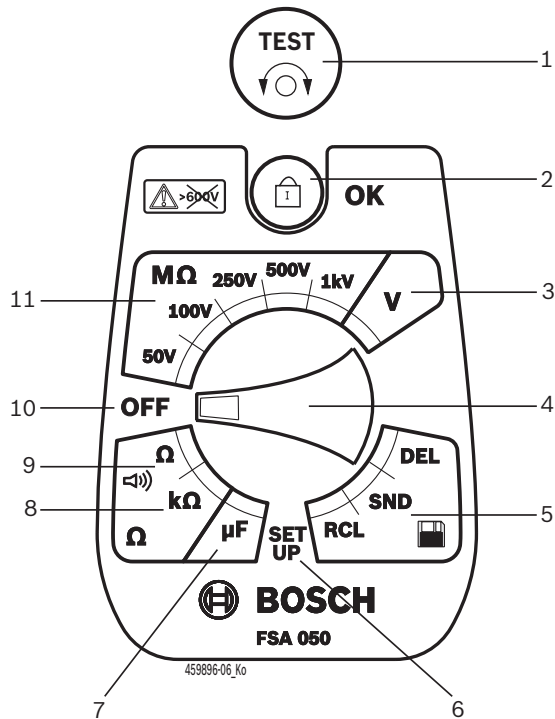

Fig. 2: Rotary switch/buttons
- Set the rotary switch to **<SETUP>** (Fig. 2, Pos. 6).
- Press **<TEST>** (Fig. 2, Pos. 1) for approx. two seconds.
- Press **<OK>** to store the desired value (Fig. 2, Pos. 2).